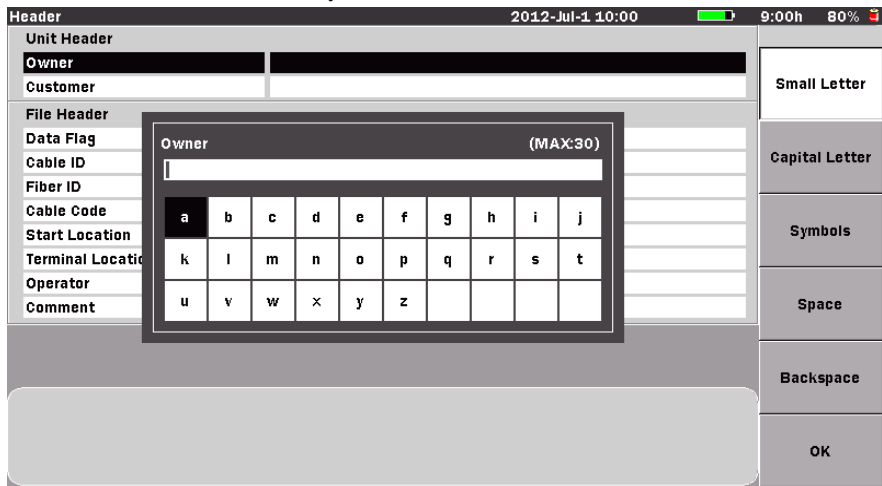

Figure 5-26: Text Entry dialog box
- Use the **Up** and **Down Arrow keys** (or the **Rotary knob**) to highlight the desired field and then press the **Enter key**. The Text Entry dialog box appears (see Figure 5-26). If no USB keyboard is connected, follow the instructions from step 5. to enter the name using the front panel keys.